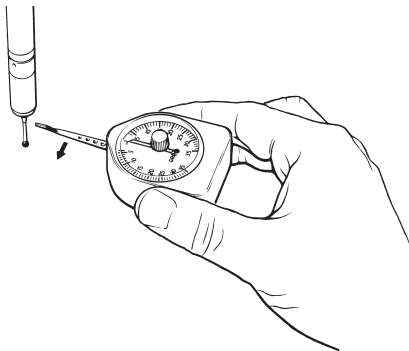

Figure 10 – Measuring trigger force
4. Slide the gram gauge slowly sideways so that the flat point on the end of the lever touches the probe stylus ball (ensuring that the probe is deflected in the low force direction). Very slowly continue to move the gram gauge until the probe triggers, at which point stop immediately, back off the gauge and read the maximum force indicator (see Figure 10).